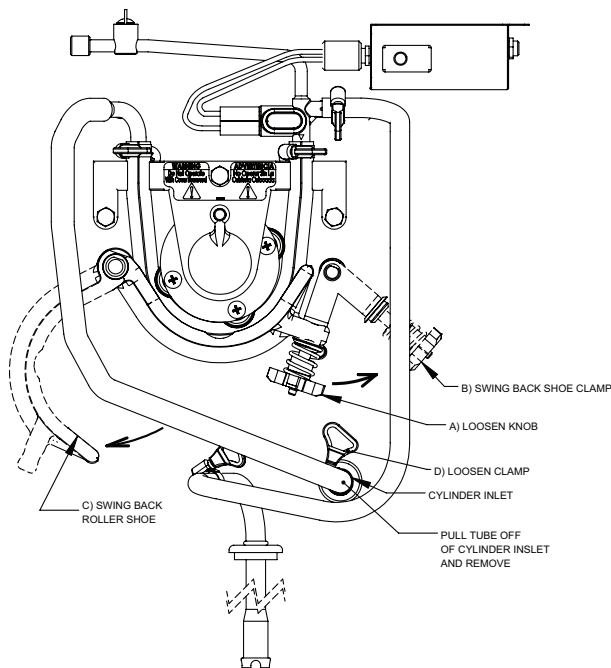

Figure 8-5 MTS Hose Assembly (LEFT SIDE*)
12. Assemble the MTS hose assembly as shown in figures 8-5 and 8-6. The transfer hose has a red locating line and the mix/inlet port has a molded locating arrow. Hold the mix/air inlet port with the transfer hose mix port on your right and the barbed air port facing away from you. With the locating line up, slide the mix transfer hose onto the port. Then slide a clamp over the hose to secure it to the port. Finger tighten only! The thumbscrew must lie parallel to the mix/air inlet port.